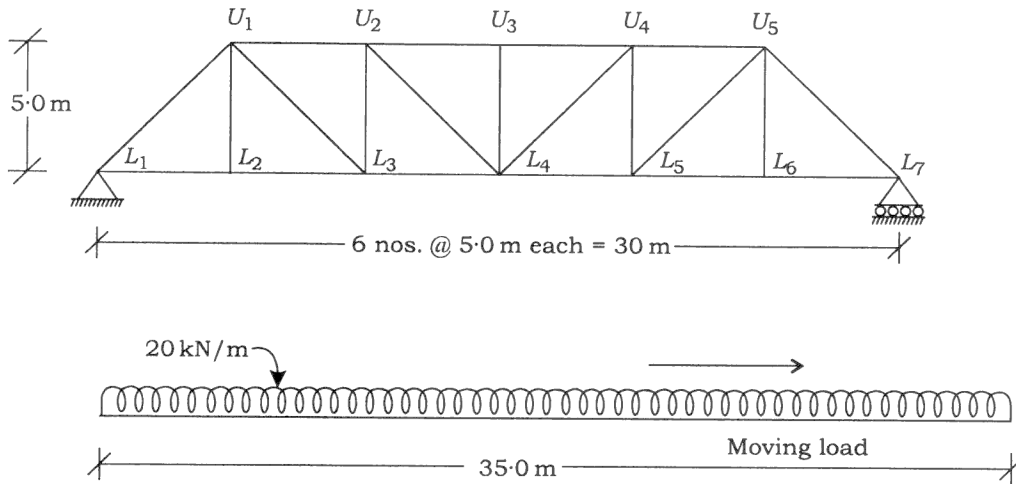

Fig. 3(a)
3. (a) A train of moving load of 20 kN/m and 35.0 m length will pass through the truss as shown in Fig. 3(a) below. Work out the maximum forces in the member U_2L_3 due to this moving load by drawing influence line diagram :